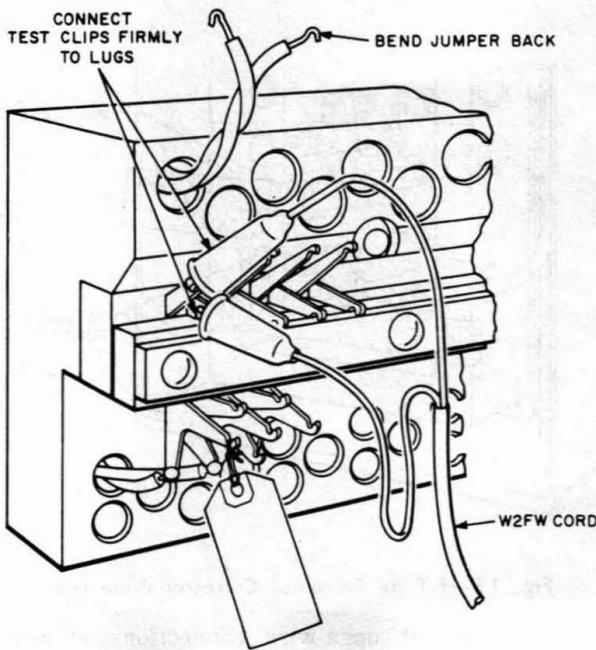
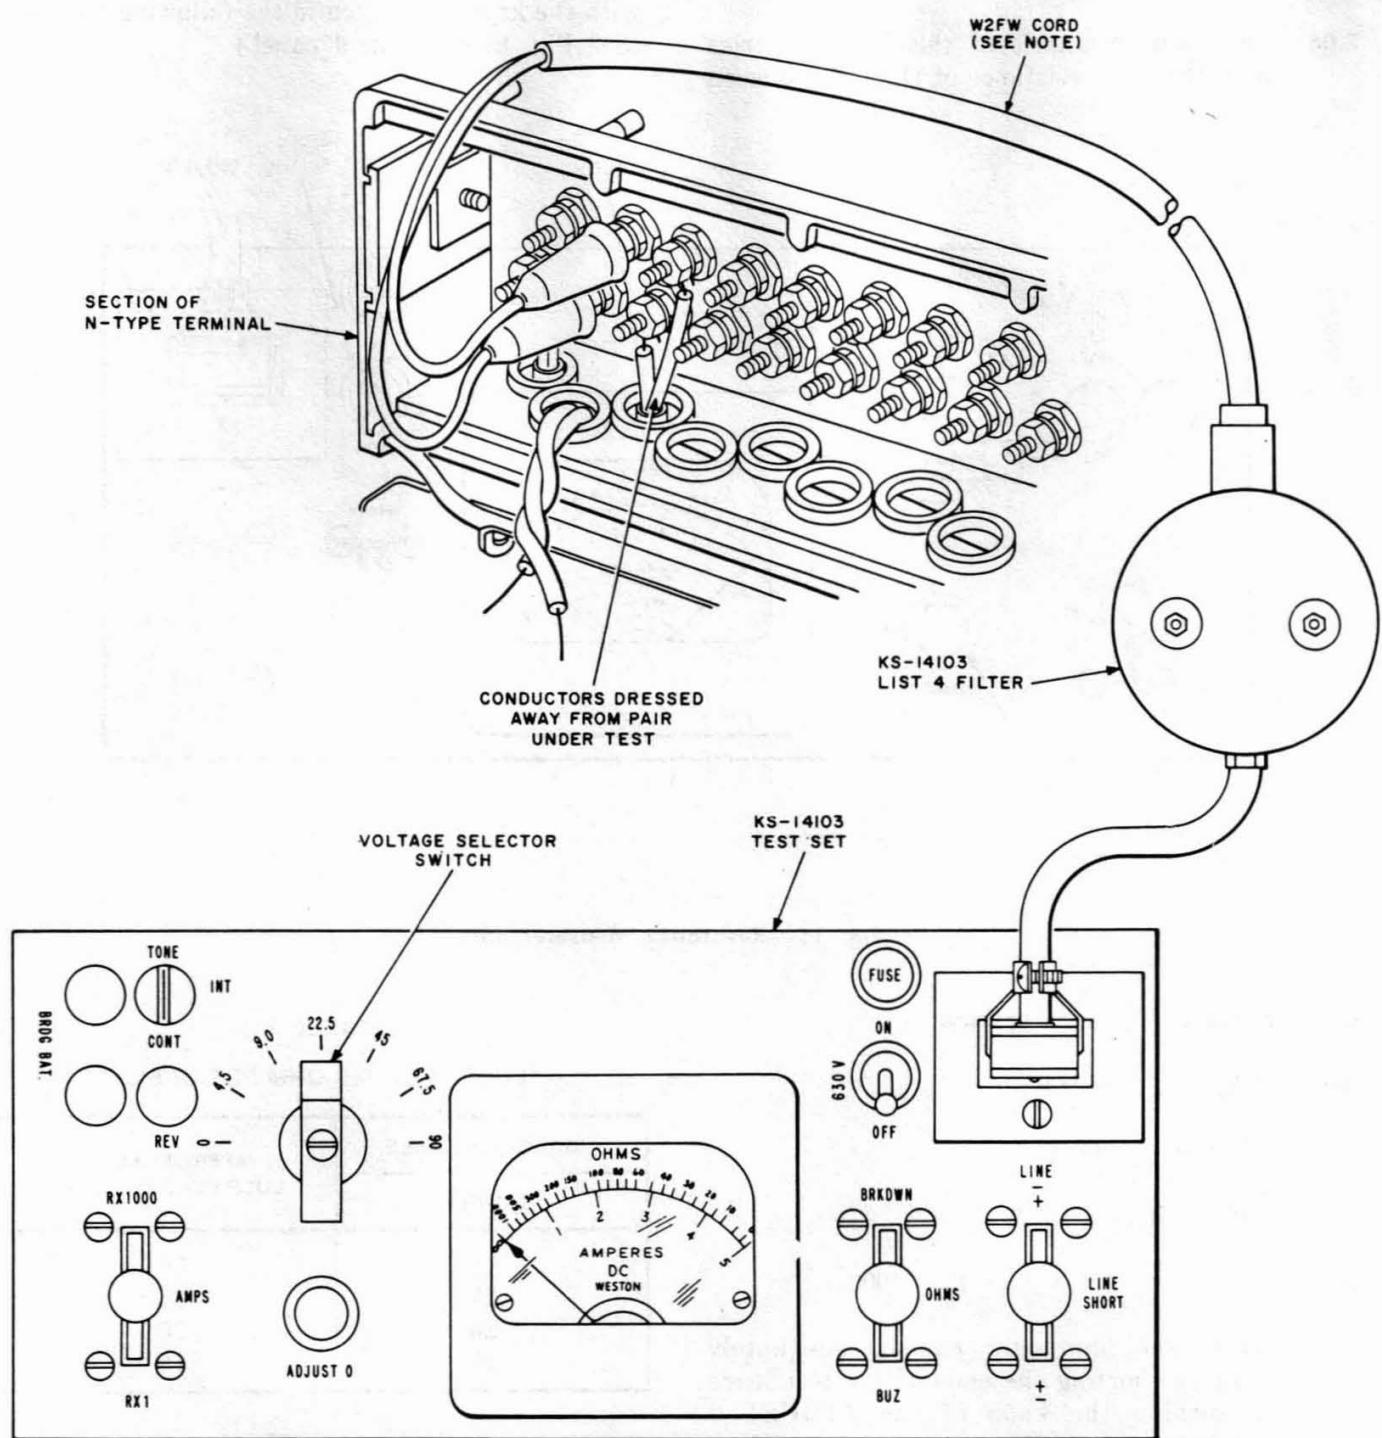

Fig. 13—Test Clips Connected to Terminal Strip
Fig. 14—Test Clips Connected To N-Type Terminal
7.04 The method of connecting to the lugs of a terminating strip is shown in Fig. 13 and to an N-type terminal in Fig. 14.